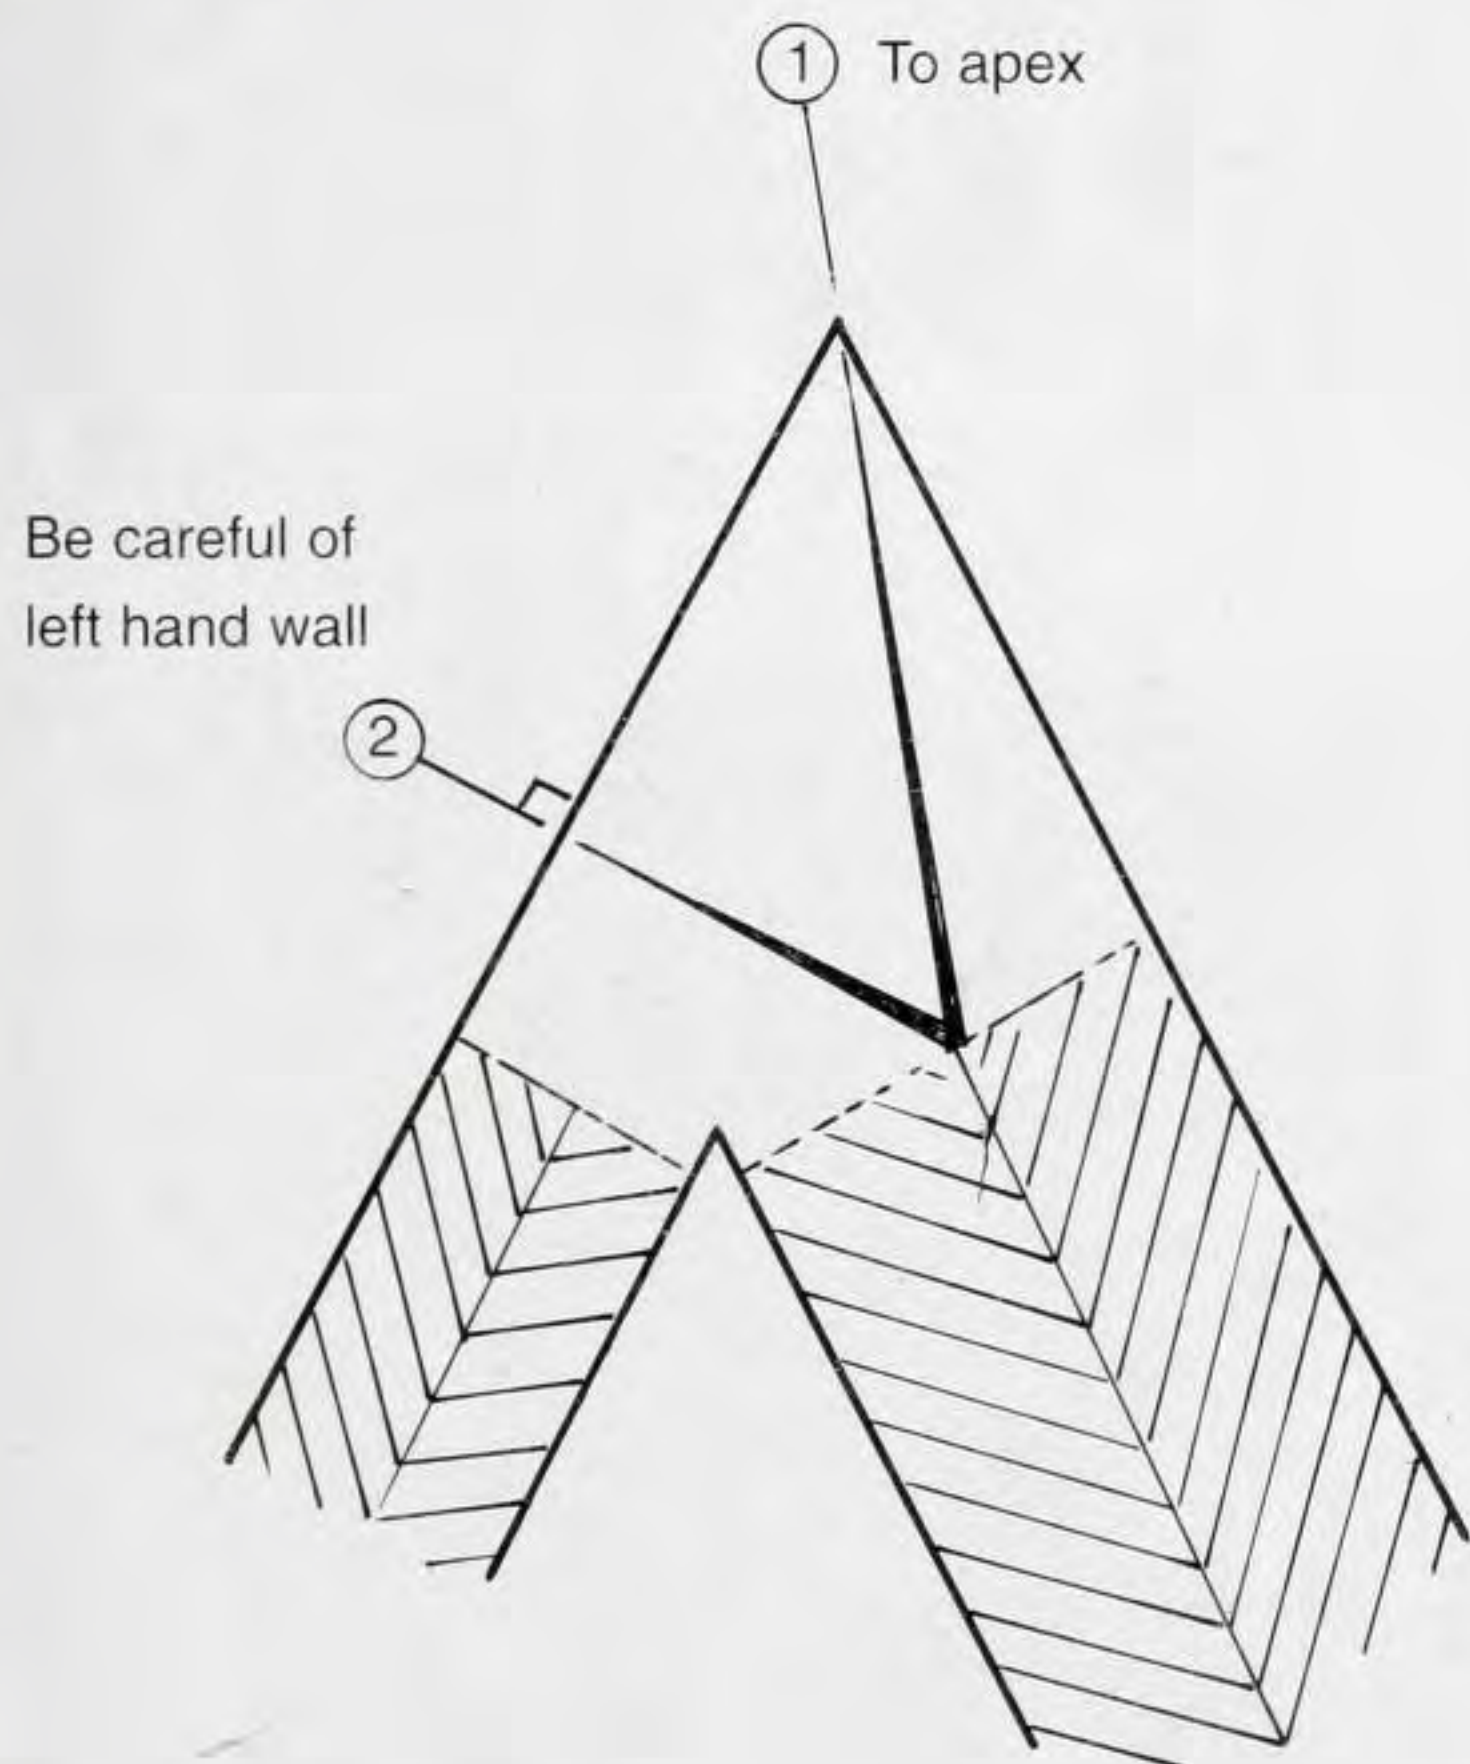
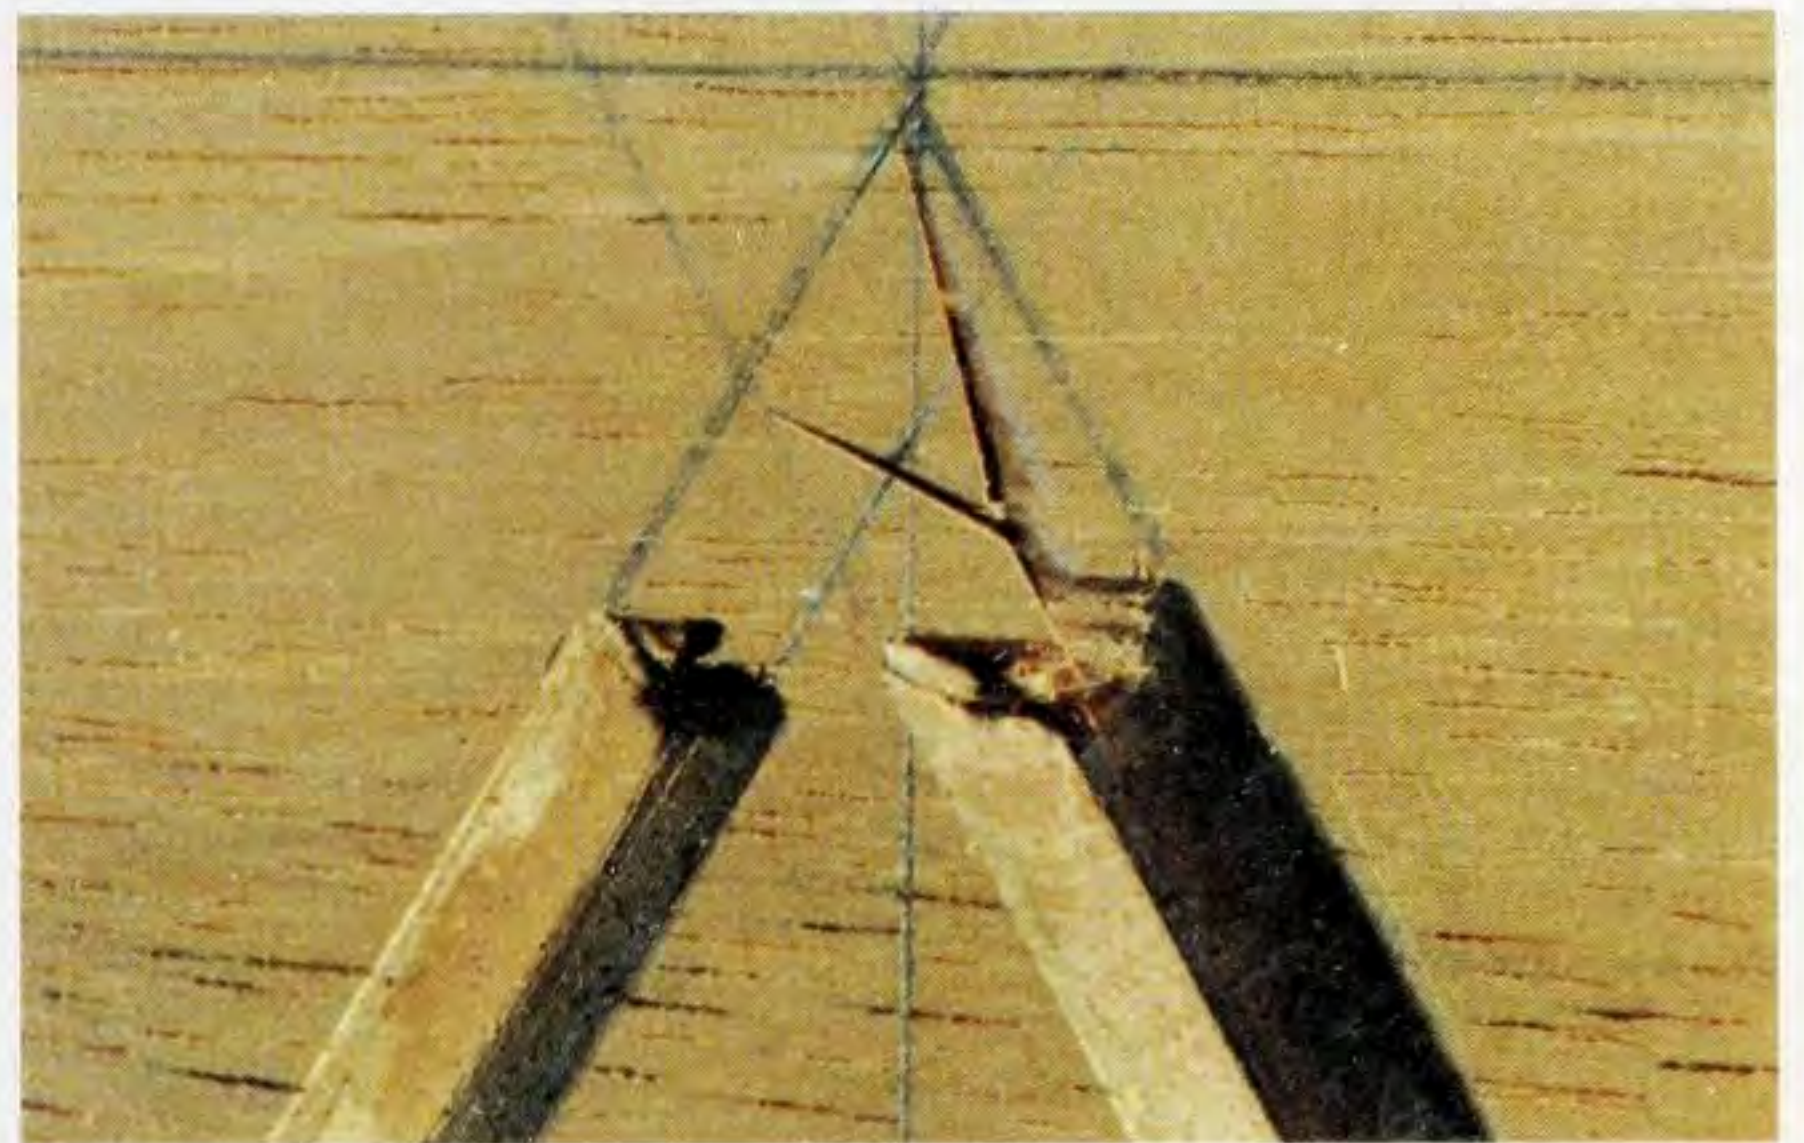

Fig 5.51 Make two stop cuts from the root of the wide trench. (1) runs to the apex, (2) to the wood surface at right angles to the left hand trench.
Fig 5.52 To cut the apex, begin with the stop cuts.
- 4 Now, using the same chisel or the fishtail, make two further stab cuts from the root at the top of the wide (right) trench, one to the wood surface at the apex of the letter, and another to the wood surface at right angles to the left trench (see Fig 5.51). These should both be light cuts to avoid 'trauma' to the short grain in the inner counter (see Fig 5.52).